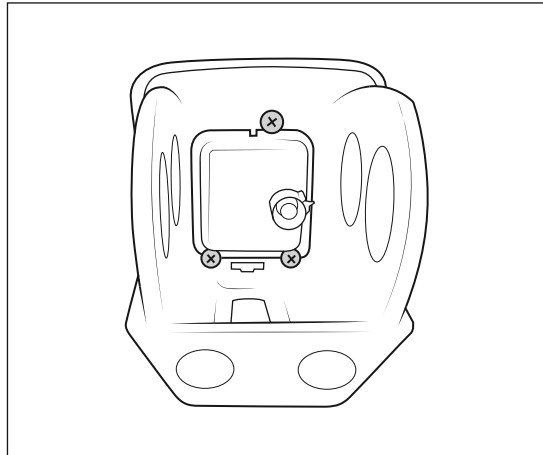

Figure 8
- G. Install camera into AEV relocation housings. It will only fit 1 way due to the alignment tabs. When looking from the rear of the housing with the mounting tabs facing up, the connector should be on the right hand side. Use the 3 small screws provided in the kit to retain the camera into the housing. Tighten only until snug, overtightening can strip or crack the plastic housing (fig. 8).